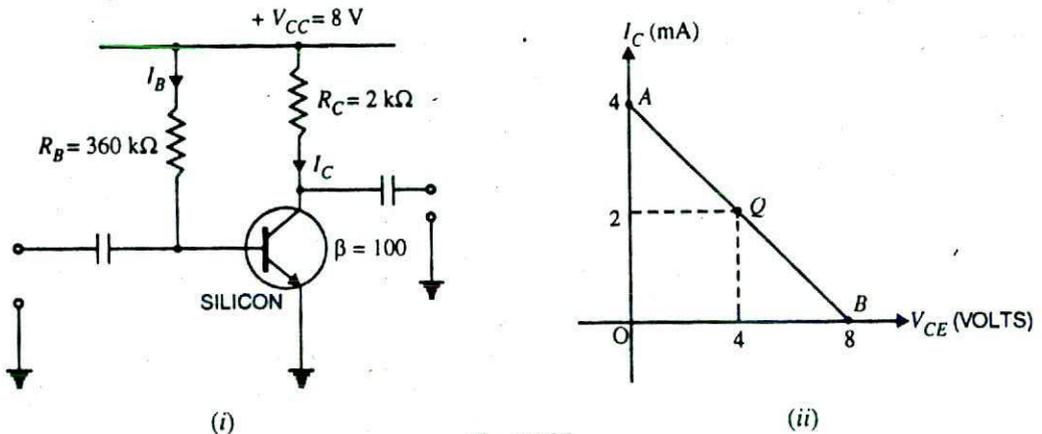

Fig. 11.25
**Example 11.20.** Determine whether or not the circuit shown in Fig. 11.25 (i) is midpoint biased.
This locates the point B ( $OB = 8 \text{ V}$ ) of the dc load line. By joining these two points, dc load line AB is constructed [See Fig. 11.25(ii)].
**Operating point.** Referring to Fig. 11.25 (i), we have,